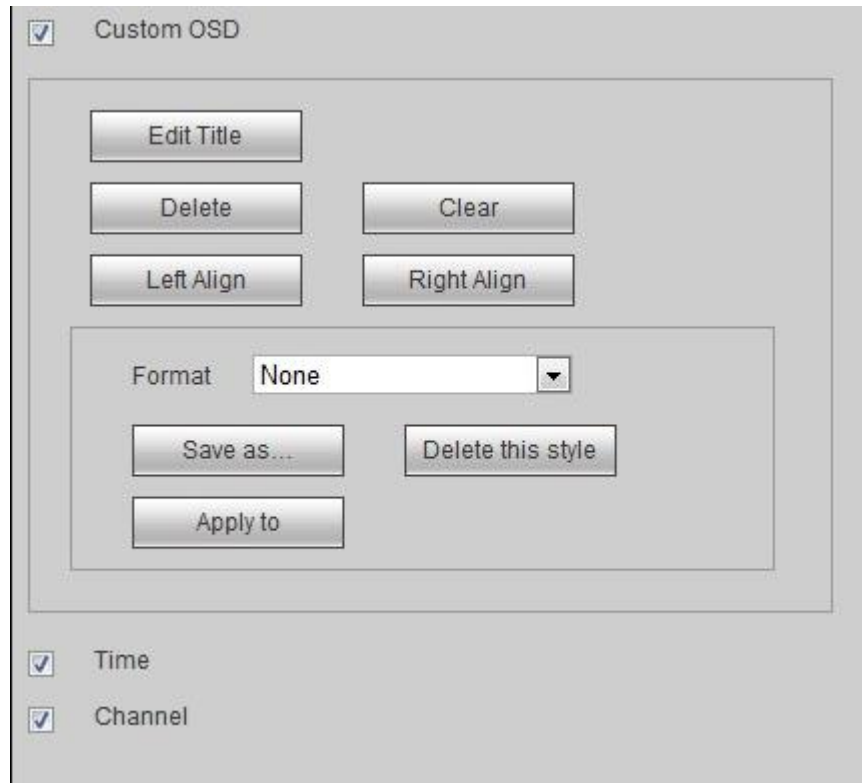

Figure 4-83
Step 1 Select “Custom OSD”. The system displays Figure 4-83.